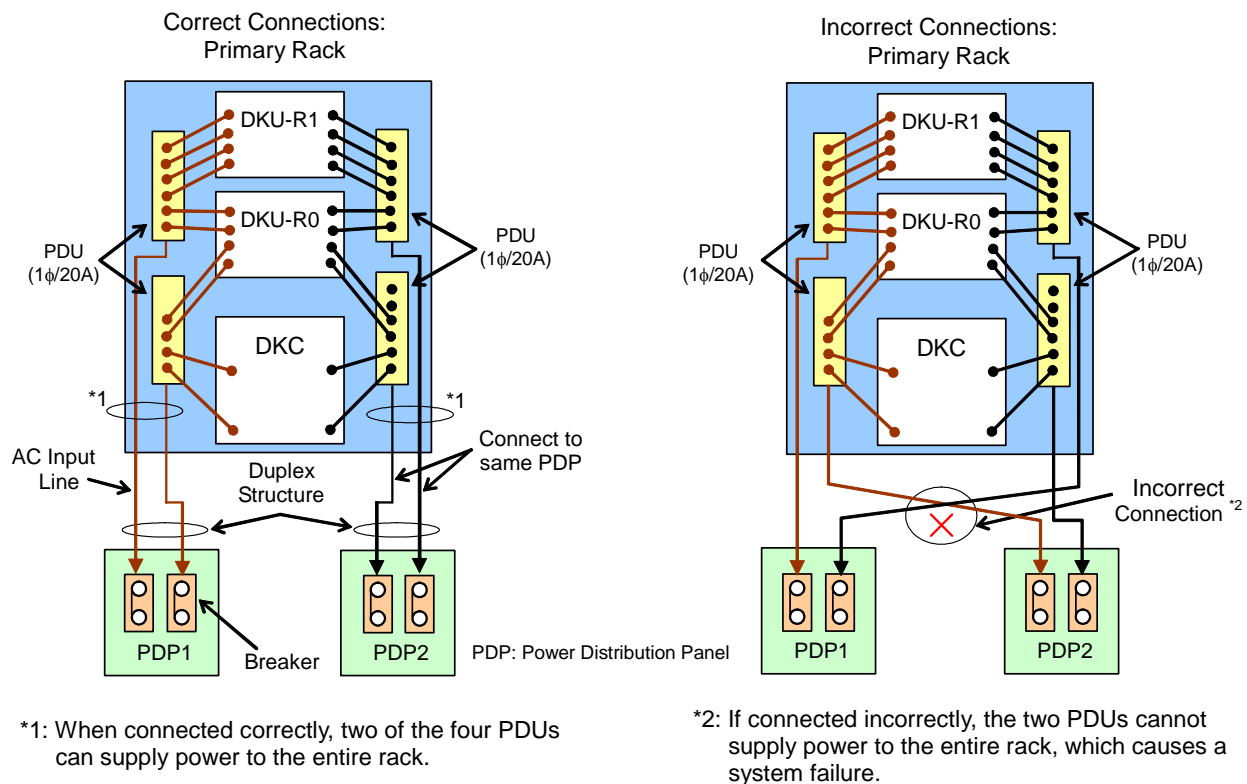

Figure 2-9 Direct Power Connection
- **Direct connection to power.** Figure 2-9 shows the power connections when the AC input lines are connected directly to the power facility.
Caution: When installing the USP VM, be sure to connect the AC cables between the PDUs and PDPs correctly. If these cables are connected incorrectly, a system failure will occur when one of the AC inputs is interrupted. Figure 2-9 illustrates the correct connections (drawing on the left) and the incorrect connections (drawing on the right).